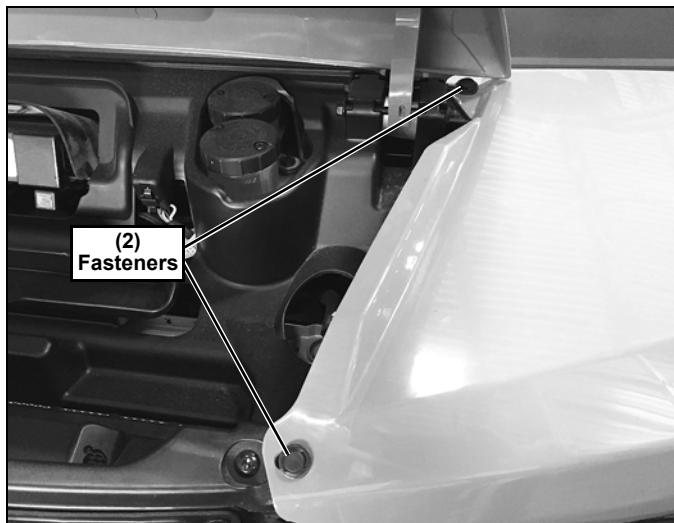

Figure 1
1. Open hood and remove the (4) fasteners (2 on each side) that hold the driver and passenger side fenders. (See Figure 1.)